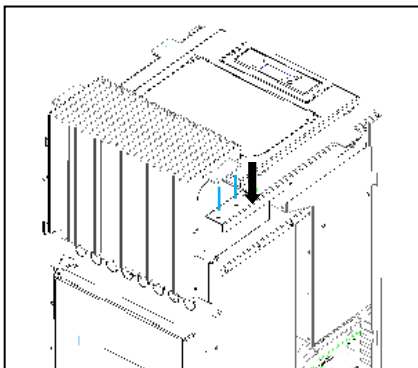

Figure 33 - Fitting the front grille
b) On **Pine, Leaf and Aspen** equipment. Fit the front grille, matching the holes in the grille to the holes in the appliance (Figure 33).